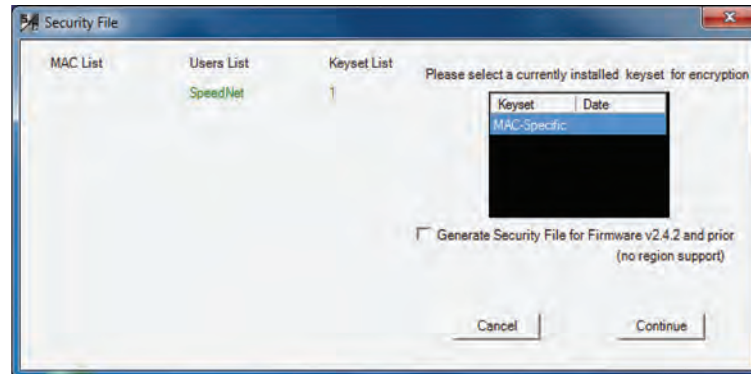

Figure 23. The Security File window.
STEP 19. Click the **Generate Security File** button on the **Key Generation** window. The **Security File** window will open with all selections listed. See Figure 23.